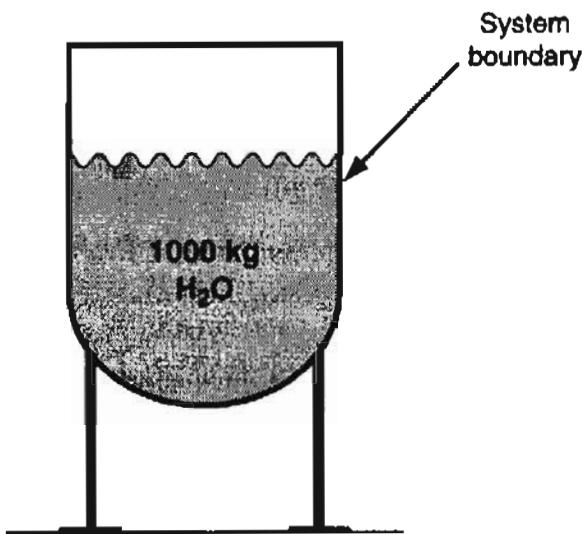
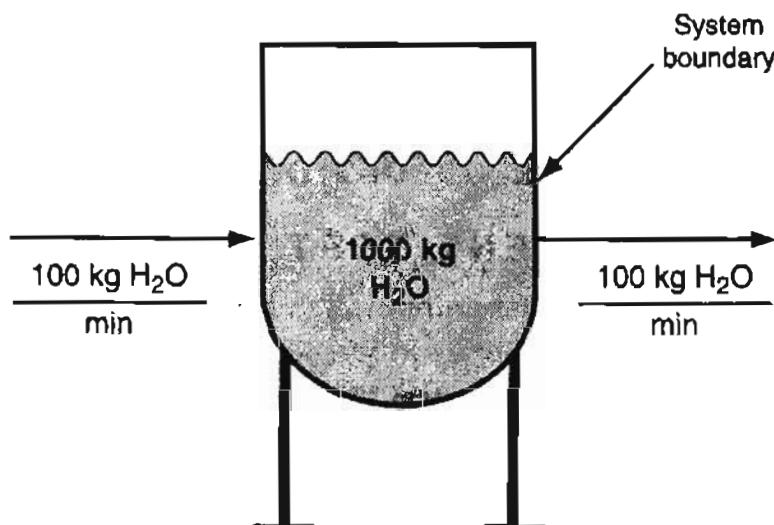
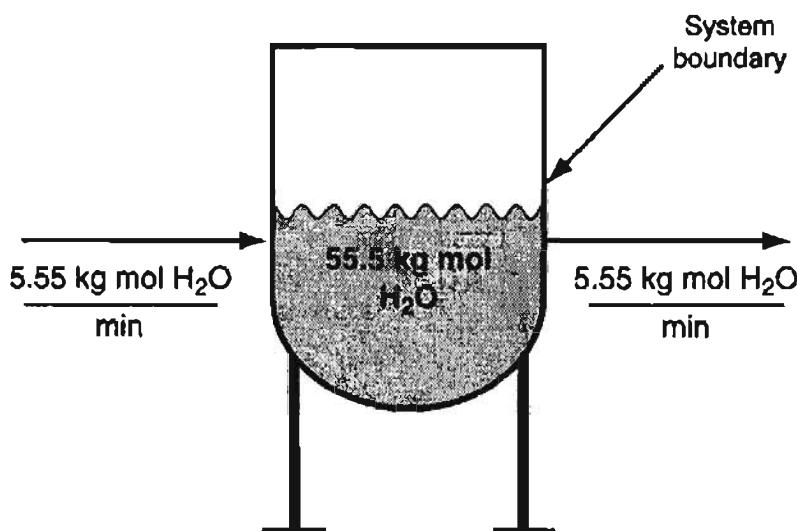
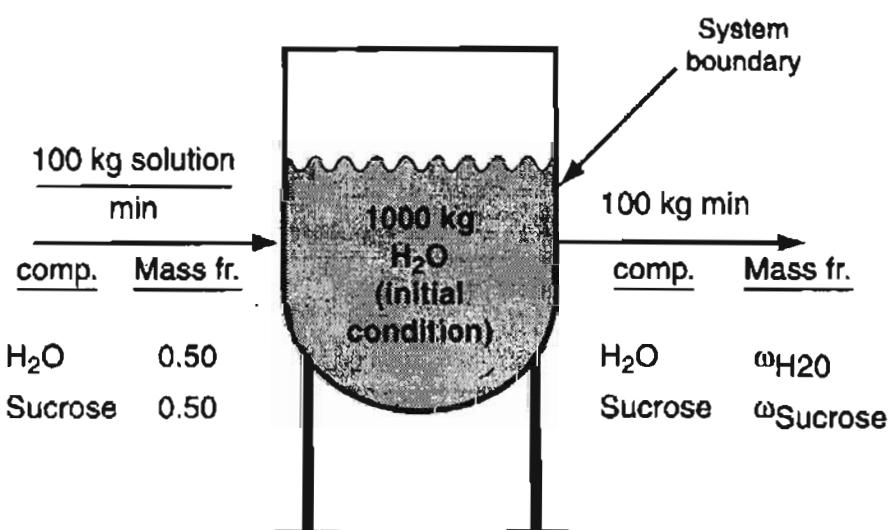

Figure 6.1 A closed system.
Figure 6.2 An open steady-state system.
Figure 6.7 The system in Figure 6.2 with the flow rates shown in kg mol.
Figure 6.8 An open system involving two components.
Figure 6.1 shows a two-dimensional view of a three-dimensional vessel holding 1000 kg of H_2O . Note that material neither enters nor leaves the vessel, that is, no material crosses the system boundary. Figure 6.1 represents a **closed system**. Changes can take place inside the system, but for a closed system, no mass exchange occurs with the surroundings.
Next, suppose that you add water to the tank shown in Figure 6.1 at the rate of 100 kg/min and withdraw water at the rate of 100 kg/min, as indicated in Figure 6.2. Figure 6.2 is an example of an **open system** (also called a **flow system**) because material crosses the system boundary.
Because the rate of addition of water is equal to the rate of removal, the amount of water in the vessel shown in Figure 6.2 remains constant at its origi-
- 1) the conditions inside the process (specifically the amount of water in the vessel in Figure 6.2) remain unchanged with time, and
Figures 6.2 through 6.6 show the mass flows and initial and final conditions. However, Equation (6.1) does not specifically refer to mass but to "material" and "flows." Equation (6.1) can apply to moles or any quantity that is conserved. As an example, look at Figure 6.7 in which we have converted all of the mass quantities in Figure 6.2 to their equivalent values in moles.
50% sugar (sucrose, $C_{12}H_{22}O_{11}$, MW 342.3) mixture. As indicated in Figure 6.8, the vessel initially contains 1000 kg of water, and the exit stream flow is 100 kg/min of water and sugar. How would the material balance for the process in Figure 6.8 differ from the ones displayed in Figures 6.1 through 6.6?
After examining Figure 6.8, would you agree that because the constant total inlet mass flow of 100 kg/min equals the constant total exit mass flow of 100 kg/min, the system can be represented as a steady-state system insofar as a balance on the total mass is concerned? However, with respect to the sugar and water mass balances, balances that we call **component balances**, the process will be unsteady-state. Sugar starts to accumulate in the system and water is depleted.